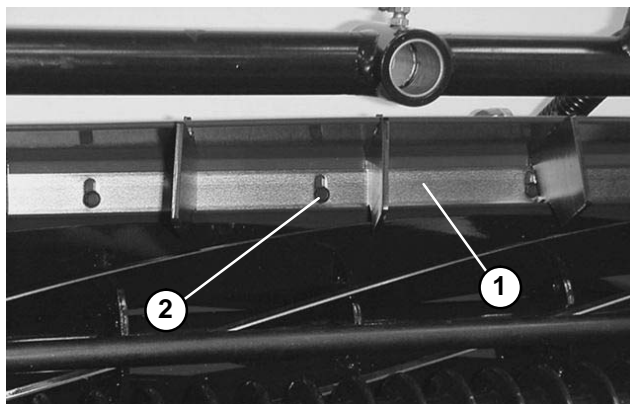

Figure 22
1. Loosen screws securing Cut-Off bar (Fig. 22). Insert 0.060" (2 mm) feeler gauge between top of reel and Cut-Off bar.